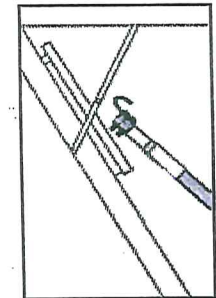

FIGURE 12
3. Use the pole hook to tap the power arm toward the open end of the attic ladder (away from the door hinge) to release power arm (See figure 12).